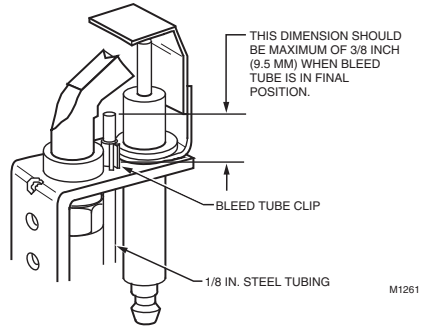

Fig. 4. Install bleed gas tube.
2. Push clip into place. See Fig. 4.